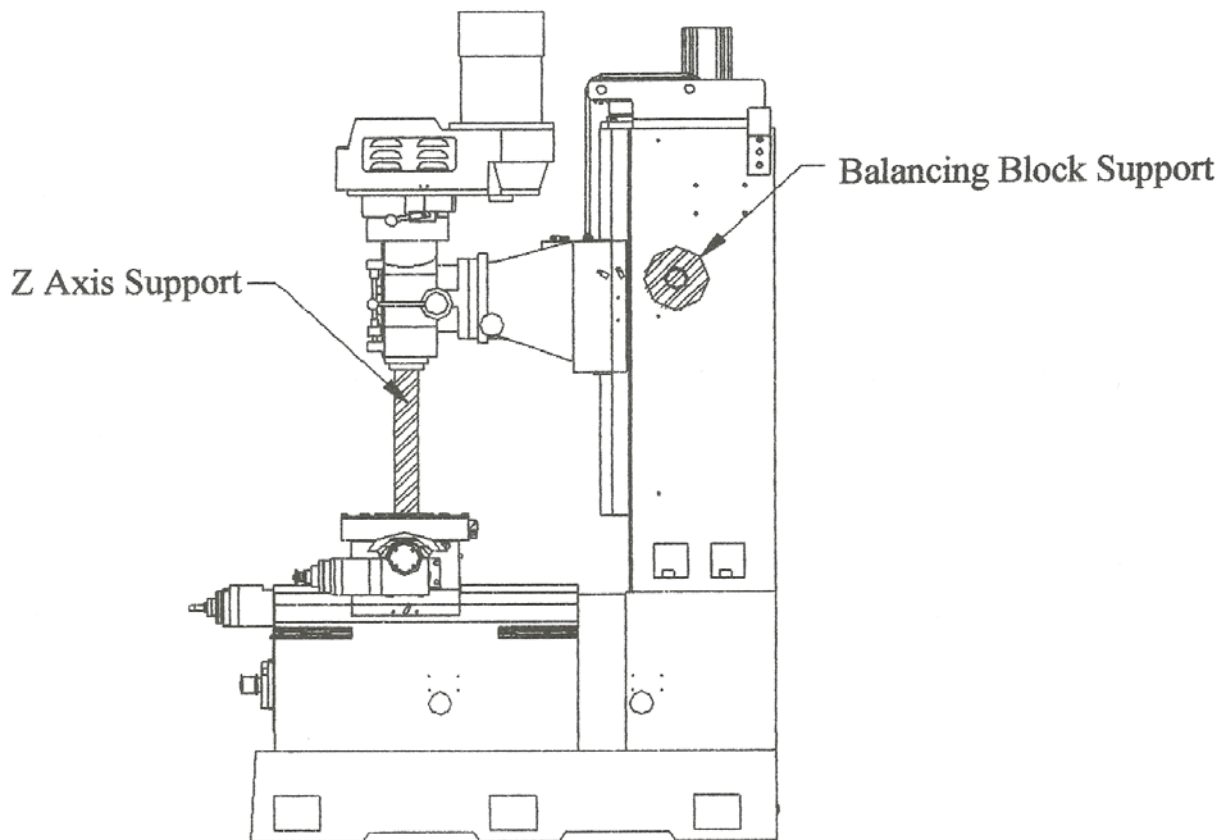

Figure 5
- b. Y & Z axes ball screw is fixed by the wooden block under the spindle nose. (Fig 5)**
- c. Balancing block is tightened at column. (Fig 5)**